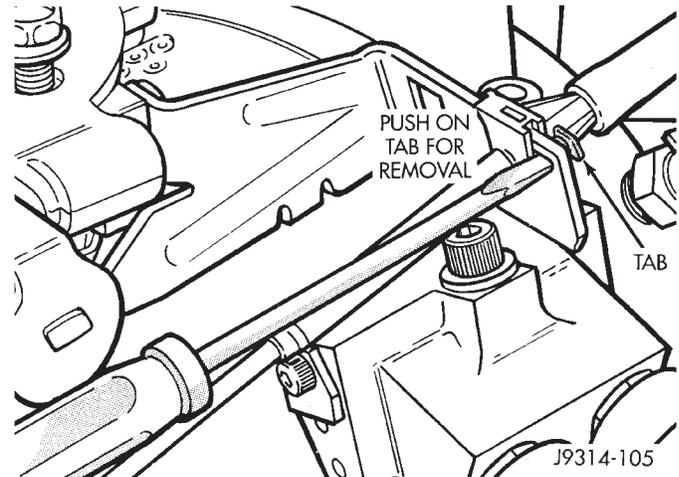

Fig. 44 Cable Release Tab—5.2L/5.9L Engines—Typical
(6) 4.0L Engine: Remove throttle cable from throttle body mounting bracket by compressing retainer tabs and pushing cable through hole in bracket. Remove throttle cable from vehicle.
(7) 5.2L/5.9L Engines: Remove cable housing at throttle body mounting bracket by pressing forward on release tab with a small screwdriver (Fig. 44). **To prevent cable housing breakage, press on the tab only enough to release the cable from the bracket.** Lift the cable housing straight up from bracket while pressing on release tab. Remove throttle cable from vehicle.